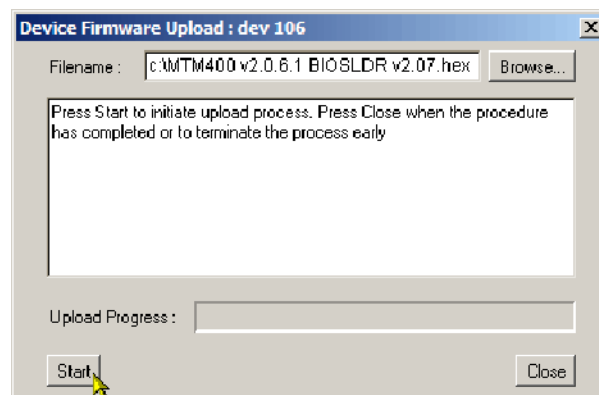

Figure 7: Device Firmware Upload window
4. In the Configuration screen, select Upload Device Firmware. This opens the Device Firmware Upload window shown in Figure 7.
6. After you select the upgrade file, click Start (see Figure 7). The BIOS loading process may take a few minutes. While the process completes, the four buttons in the Device view will be grayed. The MTM400 will be automatically restarted when the process has completed.